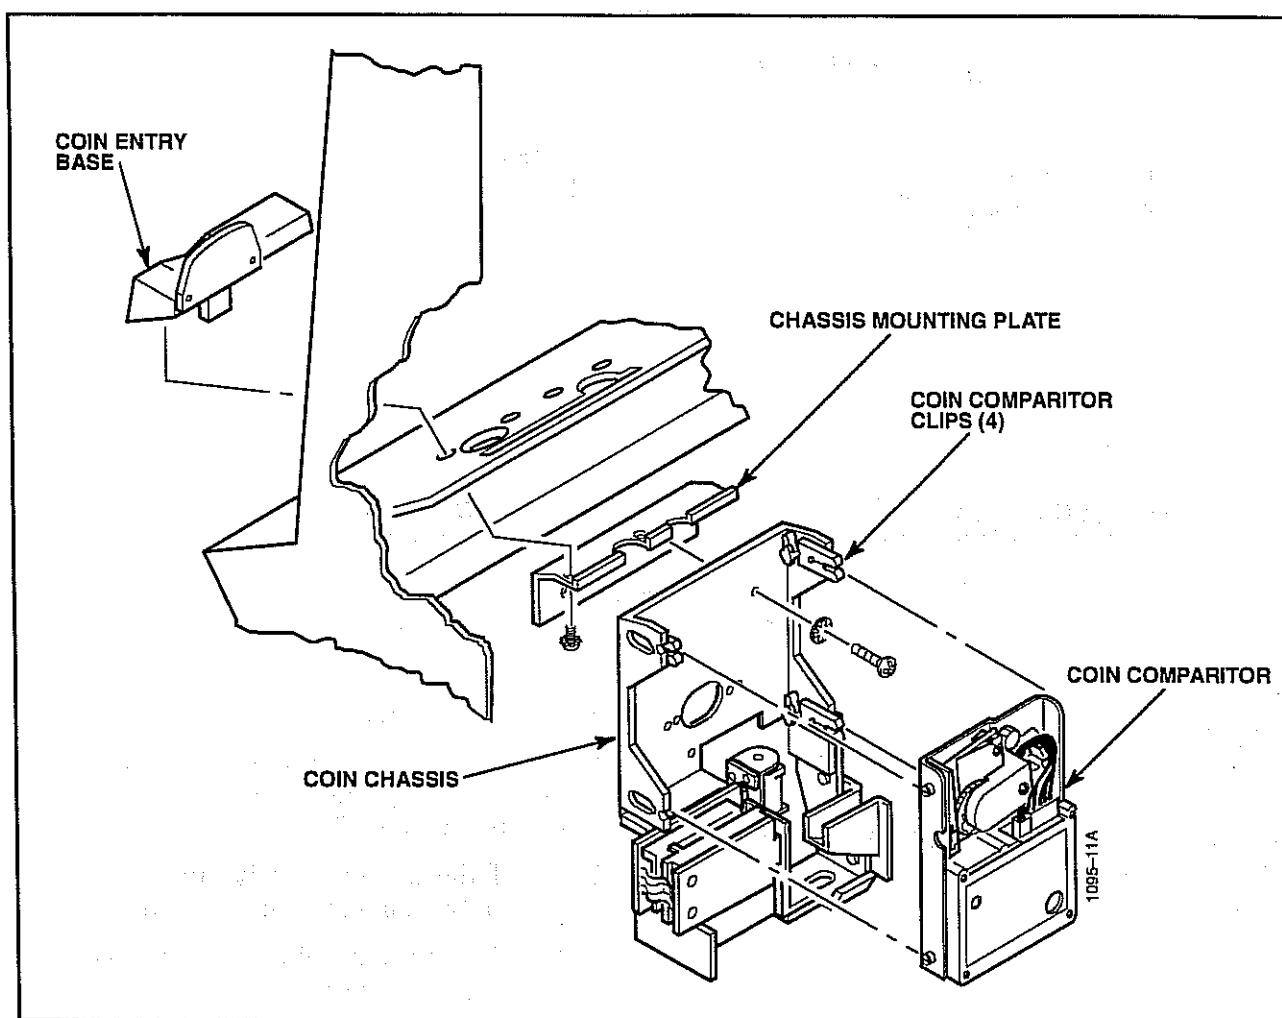

Figure 5-12. Coin Channel Position.
- the preceding coin entry section. Verify that the optic coin encoder is correctly installed on the coin chassis (see Figure 5-12).